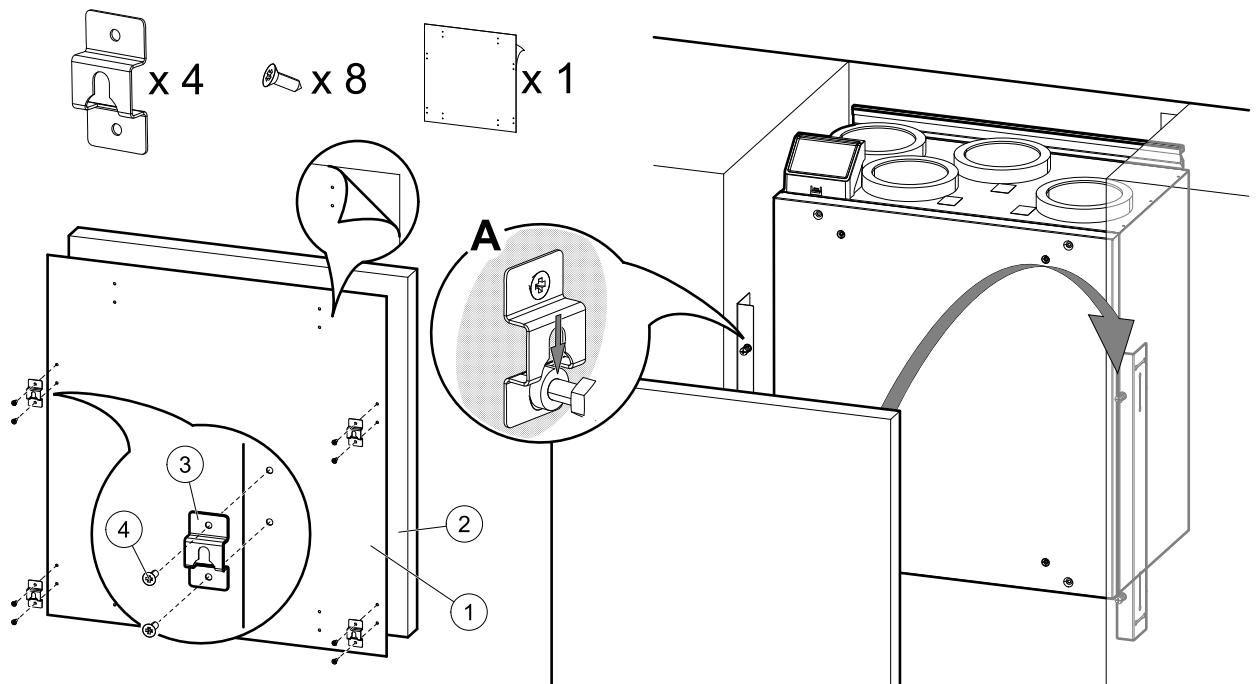

Fig. 15 Installation of hooks and mounting of the cover
2. Install four hooks near the edges on the kitchen furniture panel. Sticker with marked holes (figure 15, pos. 1) is included with the unit. Holes mark spots for screws to attach hooks. Place the sticker on a back of the kitchen furniture panel, figure 15, pos. 2). Size of the sticker is the same as the unit. Manually mark out distances from the edges in case the panel is bigger than the sticker.
Once correct position is found, attach four hooks (figure 15, pos. 3) by fastening each with two screws (figure 15, pos. 4). Hang the panel on protruding bolts (figure 15, pos. A).